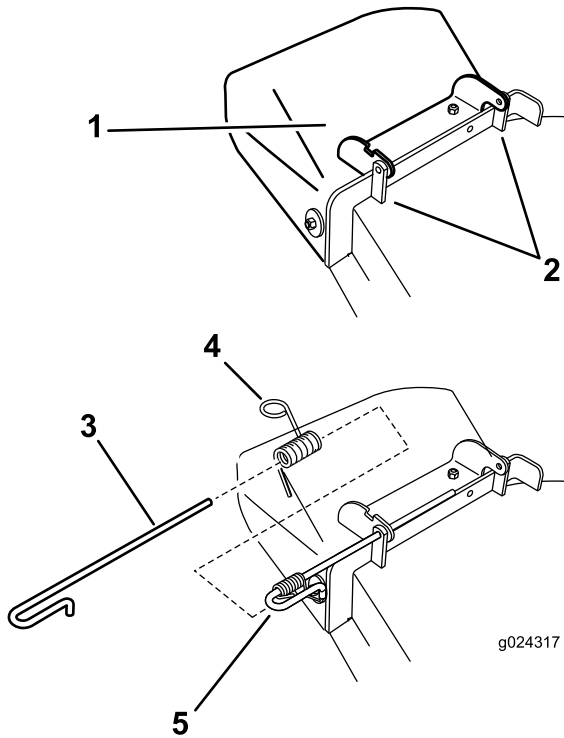

Figure 67
1. Disengage the spring from the notch in the deflector bracket and slide the rod out of the welded deck brackets, spring, and discharge deflector (Figure 67).
3. Position the new discharge deflector assembly with the bracket ends between the welded brackets on the deck as shown in Figure 67.